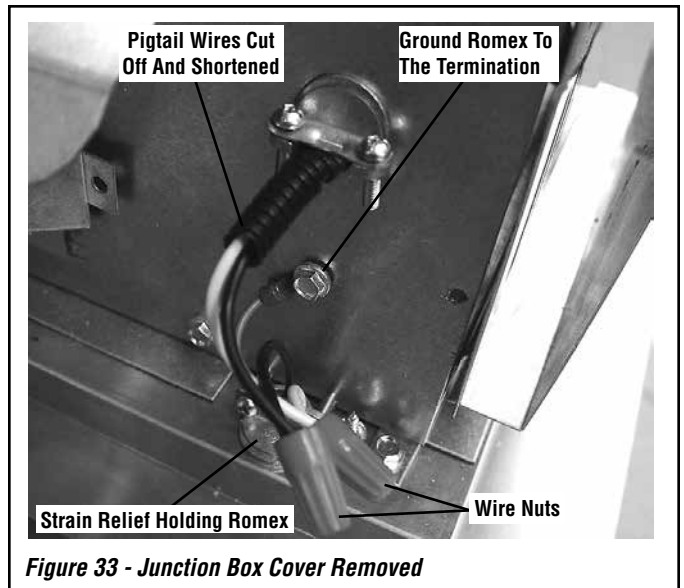

Figure 33 - Junction Box Cover Removed
4. Connect the black power supply wire to the power outlet's red pigtail lead and the white power supply wire to the common terminal of the outlet as shown in Figures 33 and 34.
- Refer to Figure 33 to connect the three wires of the Romex cable to the termination. Ensure the ground ring terminal is grounded beneath a structural screw as shown. Attach the junction box cover to the termination with the screw previously removed.